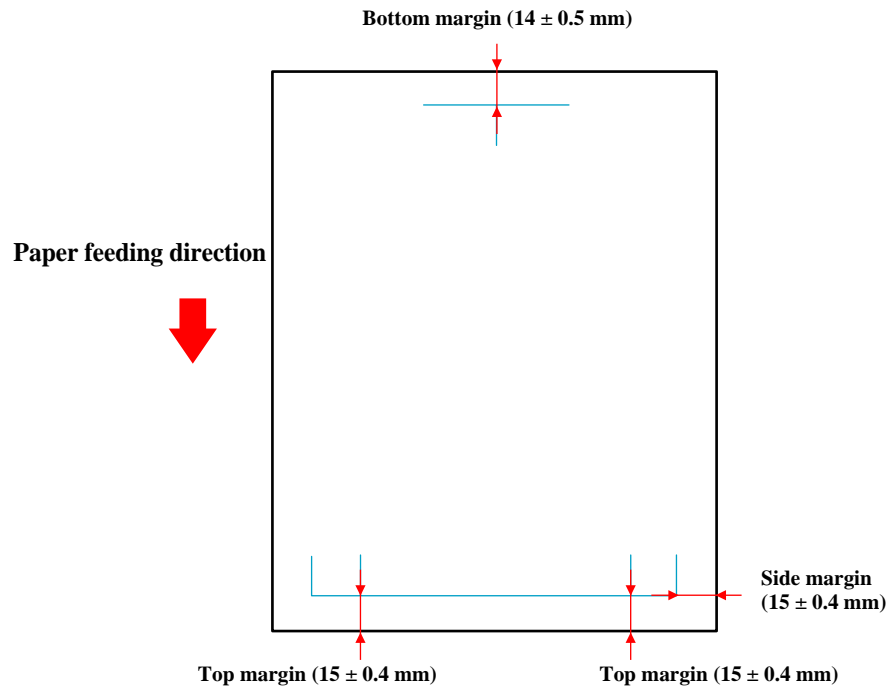

Figure 5-70. Adjustment Pattern
5. Measure the distance as shown in Figure 5-70.